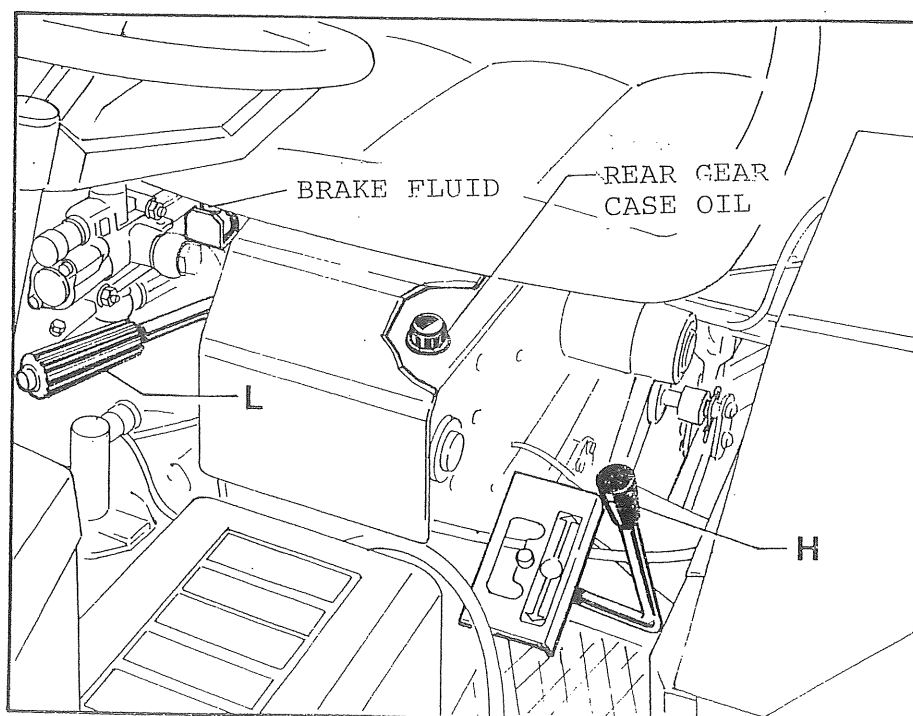

Fig. 7
H-PTO synchronizing lever: This lever allows the rear PTO to either be driven independently from ground drive or synchronized to ground drive. It also has a neutral position located between the two different work positions. See Fig 7.
L-Parking brake lever: This lever actuates the mechanical parking brakes on the rear wheels only. See Fig 7.
2. Oil level in the rear gear case. Fig 7.
4. Oil level in the hydraulic brake reservoir. Fig 7.
IMPORTANT. When using a drive wheel trailer the PTO select lever (Lever H in fig 7) must always be in the synchro position. If the PTO select lever is inadvertently left in the independent position, extensive damage could be done to the drive gears.